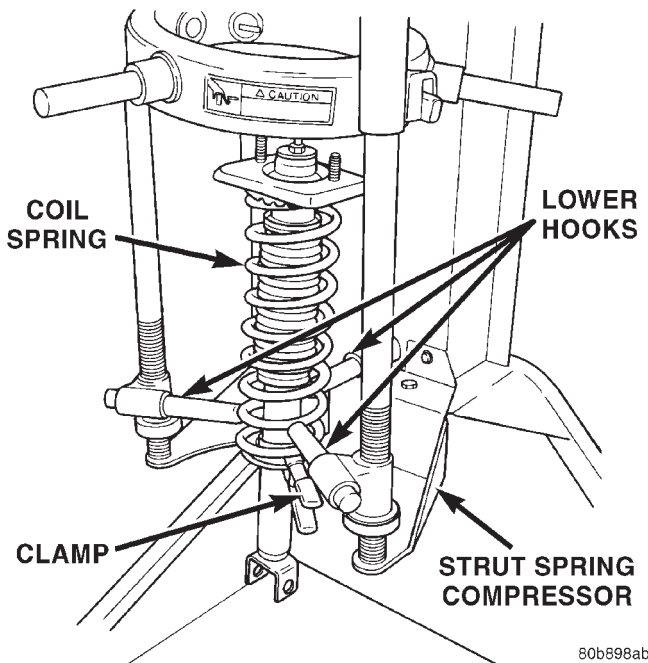
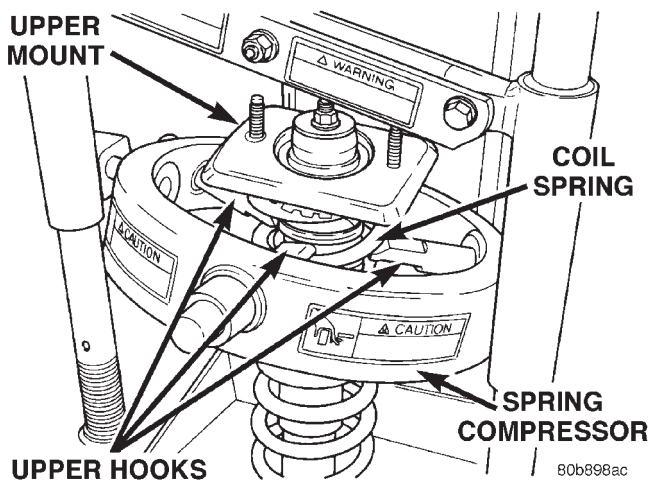
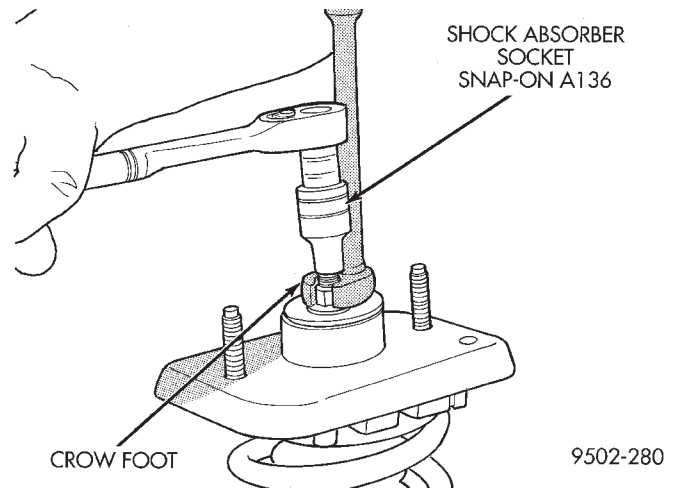

Fig. 43 Lower Hooks And Clamp
Fig. 44 Upper Hooks Positioned
Fig. 45 Retainer Nut Removal/Installation
(1) If both shocks are being serviced at the same time, mark the coil spring and shock assembly according to which side of the vehicle the shock was removed from, and which shock the coil spring was removed from.
(2) Position the shock assembly in the strut coil spring compressor following the manufacturer's instructions. Set the lower hooks and install the clamp on the lower end of the coil spring, so the shock is held in place once the shock shaft nut is removed (Fig. 43). Lower the upper hooks and position them on the coil spring near the top (Fig. 44).
(3) Compress the coil spring until all coil spring tension is removed from the upper mounting bracket.
(4) Hold the shock rod from rotating using special socket Snap-On A136, or an equivalent, and remove the retainer nut (Fig. 45).
(1) If the coil spring has been removed from the compressor, place the lower end (smaller diameter) of the coil spring in the spring compressor supported by the lower hooks at the same position as in disassembly (Fig. 43), following the manufacturer's instructions.
(2) Position the upper hooks of the spring compressor on the coil spring near the top as in disassembly (Fig. 44).
(3) Compress the coil spring enough to reinstall the shock absorber and upper mount.
(9) Install the shock through the bottom of the coil spring until the lower spring seat contacts the lower end of the coil spring. Install the clamp temporarily securing the shock absorber to the coil spring (Fig. 44).
(10) Install dust shield and cup over the jounce bumper and onto the rod of the shock absorber.
(11) Install the lower shock rod bushing retainer washer on the shock absorber rod.
(13) Install the upper shock mount bracket and rod isolator bushings as an assembly on the top of the rod of the shock absorber (Fig. 44).
(14) Install the upper shock rod bushing retainer washer. Make sure the concave side is facing up.
(15) Install the shock assembly retainer nut. Hold the shock rod from rotating using special socket Snap-On A136, or an equivalent, and tighten the retainer nut using a crow foot wrench (on the end of a torque wrench and extension) to a torque of 45 N·m (33 ft. lbs.) (Fig. 45).
(16) Position the upper shock mount so its studs are in line with the bolt hole in the shock absorber lower bracket (Fig. 44).
(17) Slowly release the tension from the coil spring by backing off the compressor drive fully. As the tension is relieved, make sure the upper mount, isolator, and coil spring align properly. Remove the clamp from the lower end of the coil spring and shock. Push back the spring compressor upper and lower hooks, then remove the shock assembly from the spring compressor.
(18) Install shock assembly on the vehicle. Refer to REMOVAL AND INSTALLATION in this section for the required procedure.